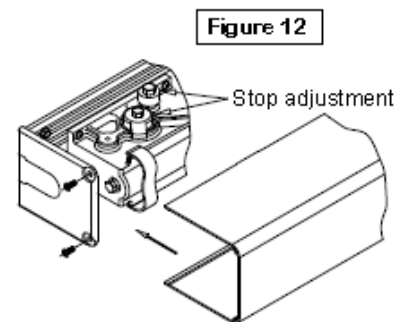

Figure 12
- 5) Set operator stop to allow for 90° opening (figure 12). Turn on power to the operator.